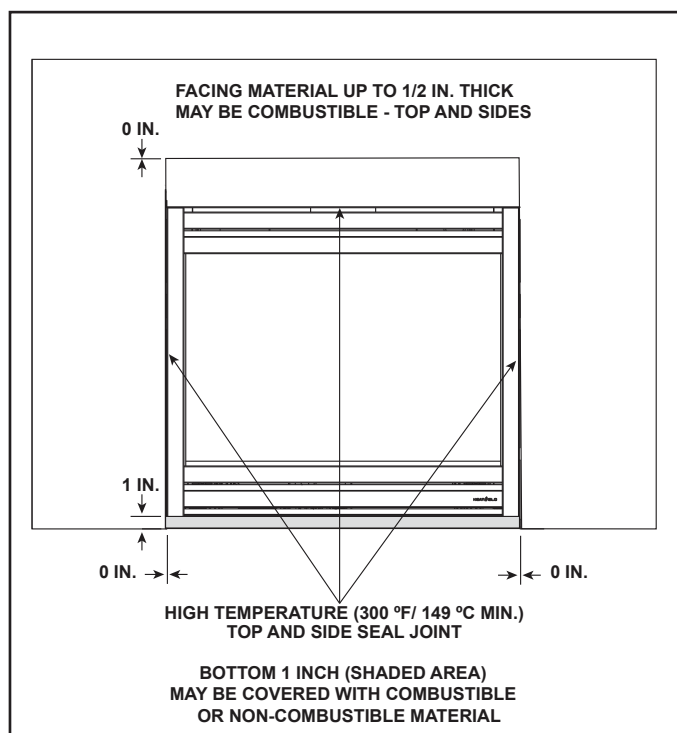

Figure 10.1 Facing Materials
- Seal joints between the finished wall and appliance top and sides using a 300 °F minimum sealant. Refer to Figure 10.1 and Figure 10.2.